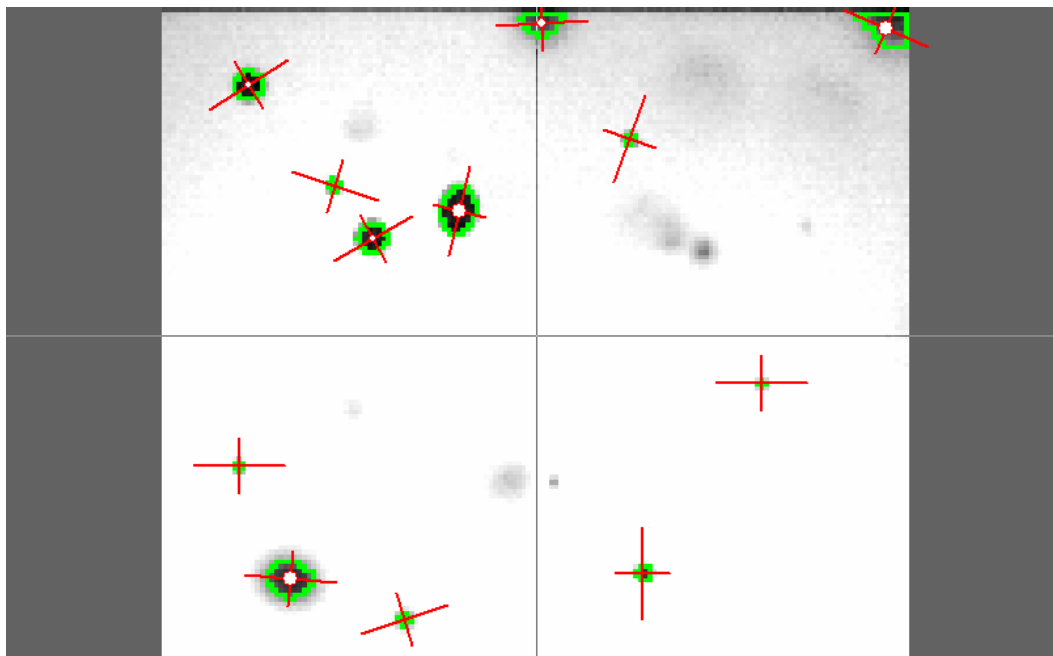

Figure 8:
19. Click the **Raw** video tab to view the results of the particle track against the unprocessed video image as shown below in Figure 8.